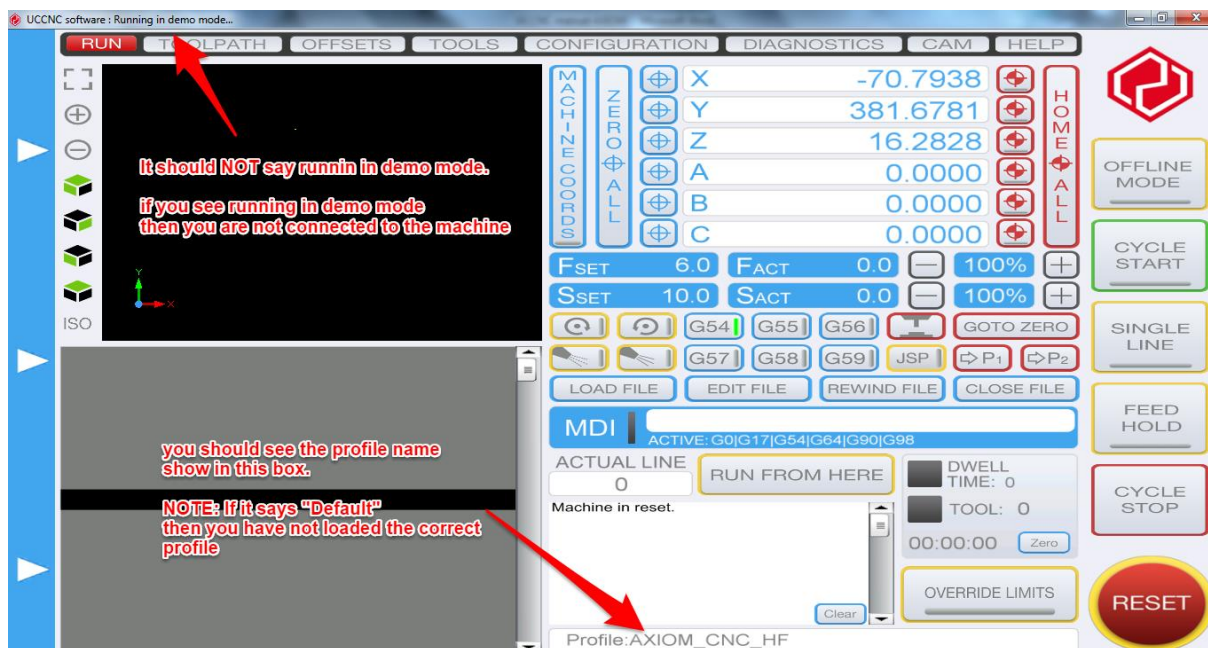

Figure 30: UCCNC main screen summary
- Figure 30 shows the main screen once you open the UCCNC controller.